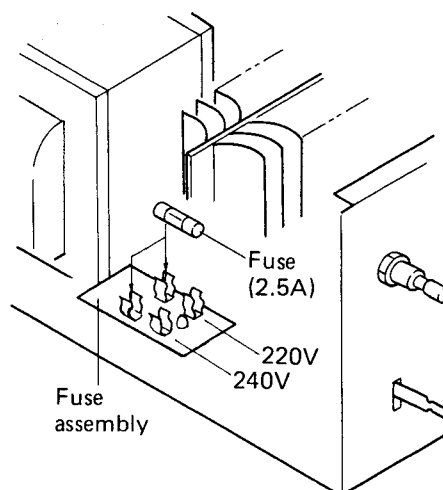

Fig. 1
3. Reset the fuse (2.5A) on the Fuse assembly to the correct place (see Fig. 1).